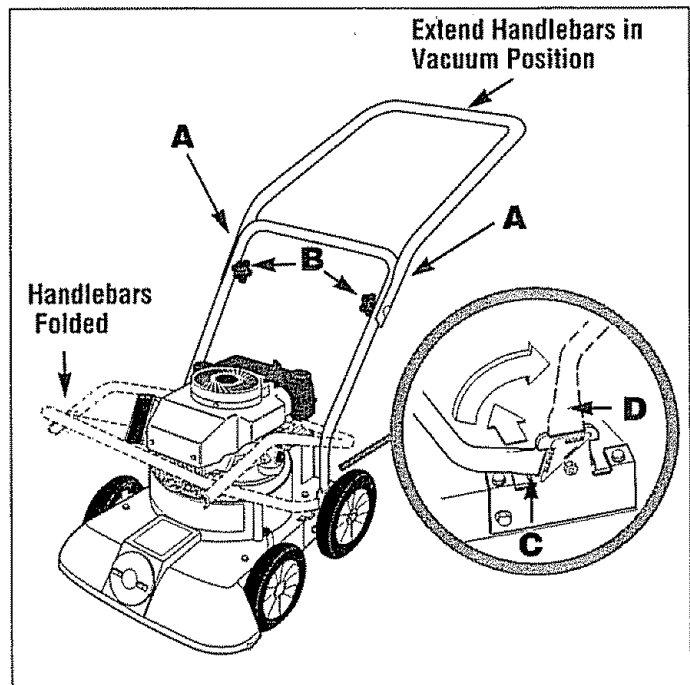

Figure 2: Handlebar position for vacuuming.
## UNFOLD THE HANDLEBARS (see Figure 2)
1. Squeeze the handlebar end (with decal "Push in Here") toward the center of the machine to release end from the notch in the mounting bracket (C) and swing the handlebars up over the machine toward the rear.
2. Position the handlebar ends in the "vacuum" notches of the brackets (D in Figure 2 inset).
3. Unfold the handlebars until the channels on the upper left and right handlebars are aligned with the lower handlebars (A). If necessary, loosen knobs (B) before unfolding handlebars.
4. Tighten the knobs (B).